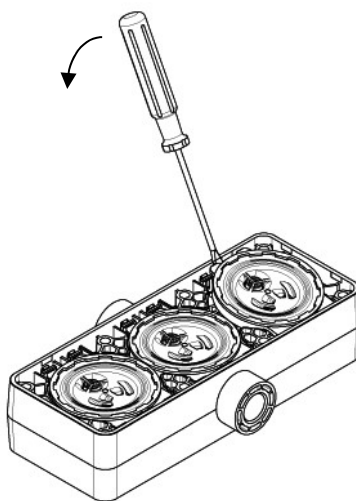

Figure 3: Dismantling the intermediate plate
1. Undo the eight head screws (1) and remove the complete head from the pump housing.
2. Remove the head plate (2) from the connecting plate (6).
3. Remove the resonating diaphragm (5), both O-rings (4) and Cellasto (3) from the head plate (2).
4. Remove the three intermediate plates (9) according to Figure 3 from the connecting plate (6) using a slot screwdriver (size 0).
5. Remove the six O-rings (7) and anchor valves (8) from the connecting plate (6). Note: Do not use sharp objects to remove the O-rings to avoid damaging them. Use compressed air to blow out the O-rings.
6. Undo the three diaphragms (10) by hand.
7. Remove the three insert rings (11) from the pump housing.